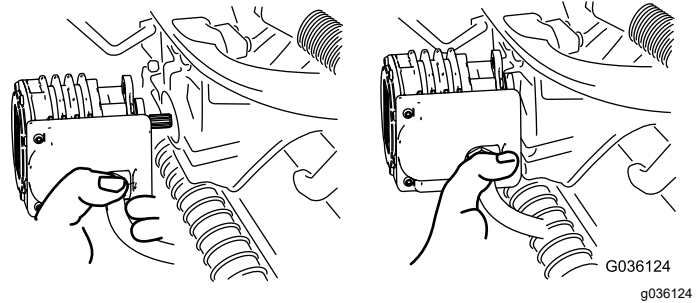

Figure 62
4. Move the motor to the storage location on the front of the suspension arm (Figure 62).